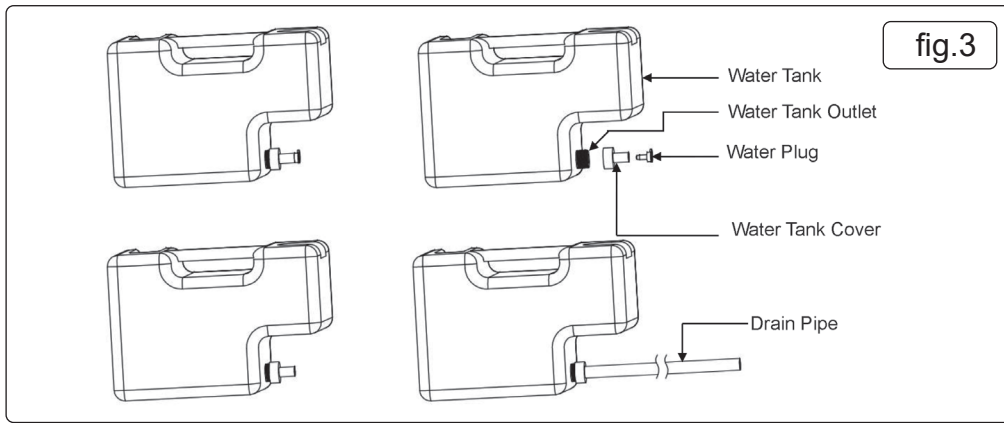

fig.3
- 5.1.2. CONTINUOUS DRAINAGE.** As shown in Fig. 3, to restore the performance of the water tank, you need to take out the water tank, and mount the drain pipe.